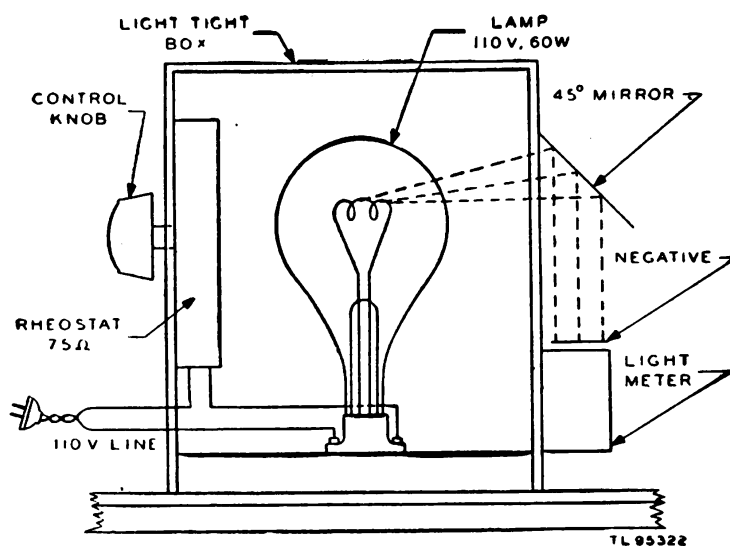

Figure 9. Charting meter lamphouse—cut-away view.
## 10. Evaluating Film Densities (figs. 9 and 10)
a. GENERAL. Before successful printing can be accomplished from a roll of film, the density of the film must be known. A densitometer may be used to take density readings of several places along the roll of film to determine the light transmitting quality of the film. The information obtained from the densitometer is then applied to exposure charts which have been established, and the printing equipment is adjusted accordingly to produce satisfactory prints. A charting meter for estimating rapidly the approximate light transmitting qualities throughout a 100-foot roll of film has been designed and built in the field by personnel of Photomail units. This charting meter consists of a light-tight box which contains a lamp and rheostat to provide adjustable illumination, and a light meter over which the film is passed. The box is constructed of wood and placed between the reels of a film rewinder. As the film passes over the window of the light meter at the rate of about 1 foot per second, the beam of light passes through the film to the cell of the meter (fig. 9). The light meter reads the intensity of the light in direct proportion to the light transmitting qualities of the film. Thin negatives, having low density readings, will cause the meter to register greater light value, while dark negatives of higher density will result in lower meter readings. In this manner, a chart